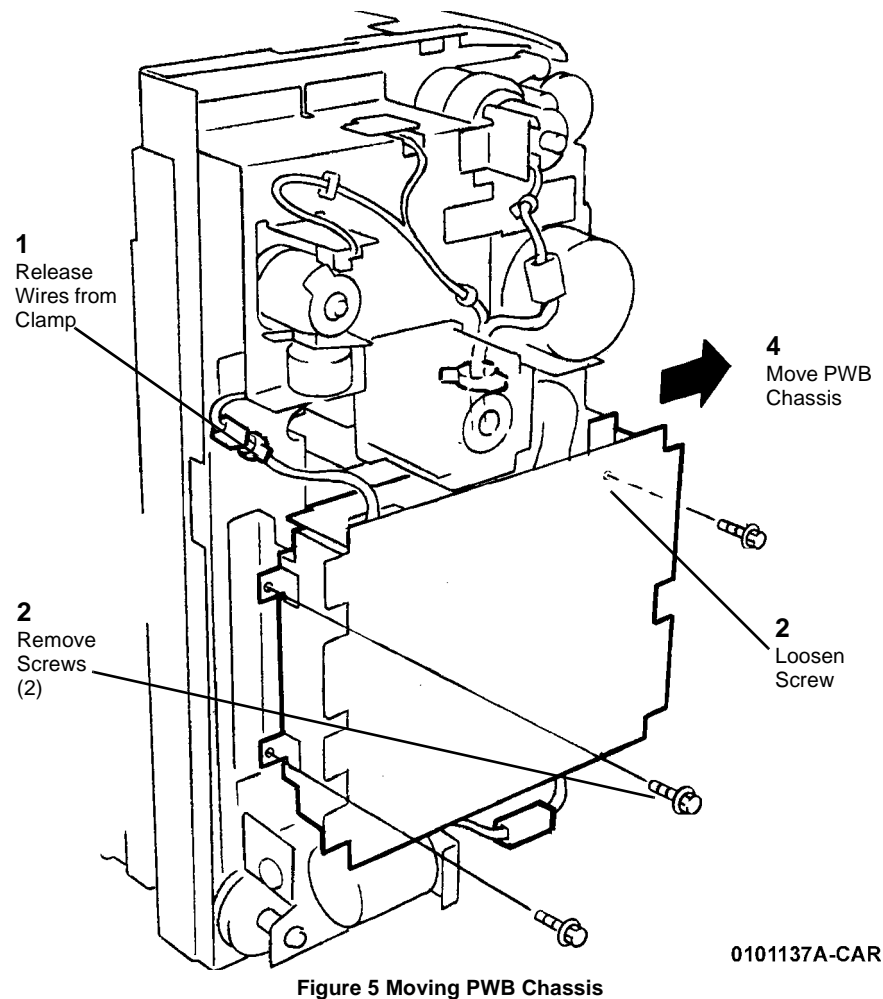

Figure 5 Moving PWB Chassis
6. Move PWB Chassis (Figure 5).